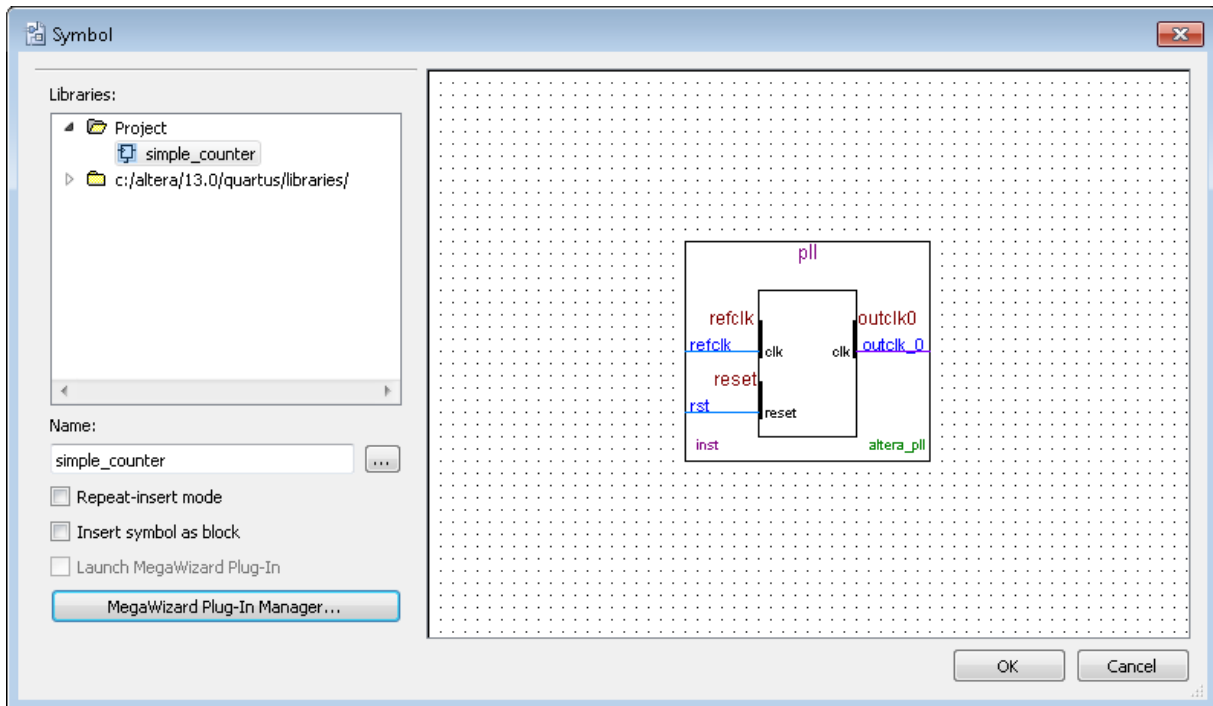

Figure 3-14 PLL Symbol
9. The Symbol window opens, showing the newly created PLL megafunction. See Figure 3-14.